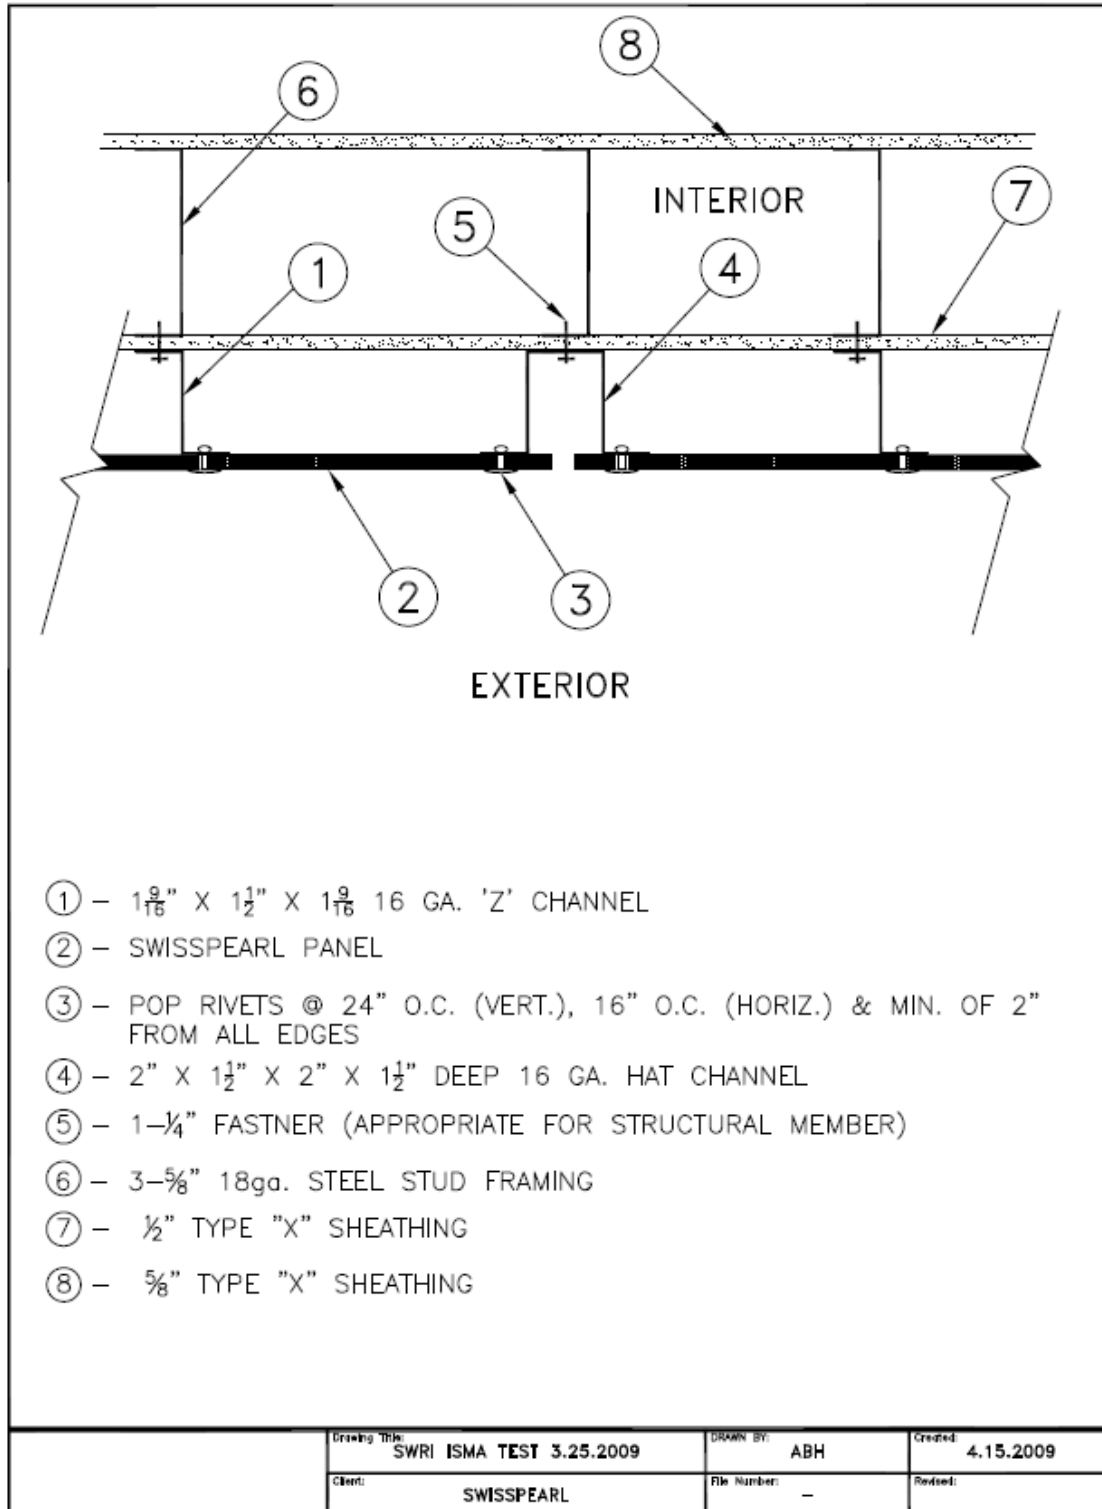

FIGURE 1
**4.1 General:** The Swisspearl® Fiber-Cement Panel System consists of Swisspearl® Fiber-Cement Panels attached with concealed or visible fasteners to metal brackets which are attached to aluminum or steel track. The Swisspearl Fiber-Cement Panel System has the following trade names; Swisspearl Carat, Swisspearl Gravier, Swisspearl Vintago, Swisspearl Vintago-Reflex, Swisspearl Reflex, Swisspearl Avera, Swisspearl Nobilis, Swisspearl Terra, Swisspearl Planea, and Swisspearl Zenor. See Figure 1 of this report for typical bracket profiles and installation illustrations.